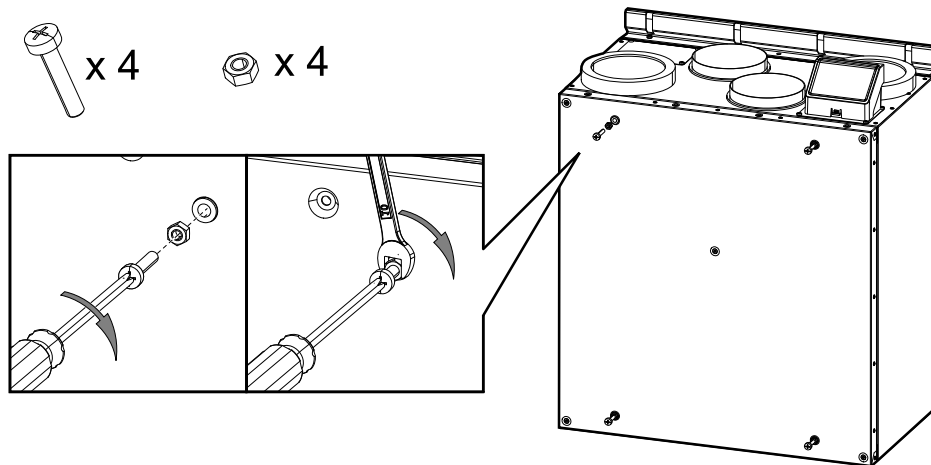

Fig. 20 Installation of bolts
Thickness of wooden blocks should be 25–100 mm. If needed distance is lower than 25 mm, adjust bolts instead of using wooden blocks (see figure 20).
1. Install four M6 bolts into threaded inserts on the unit and lock bolts with hex nuts (figure 20). Bolts protrusion can be adjusted later.